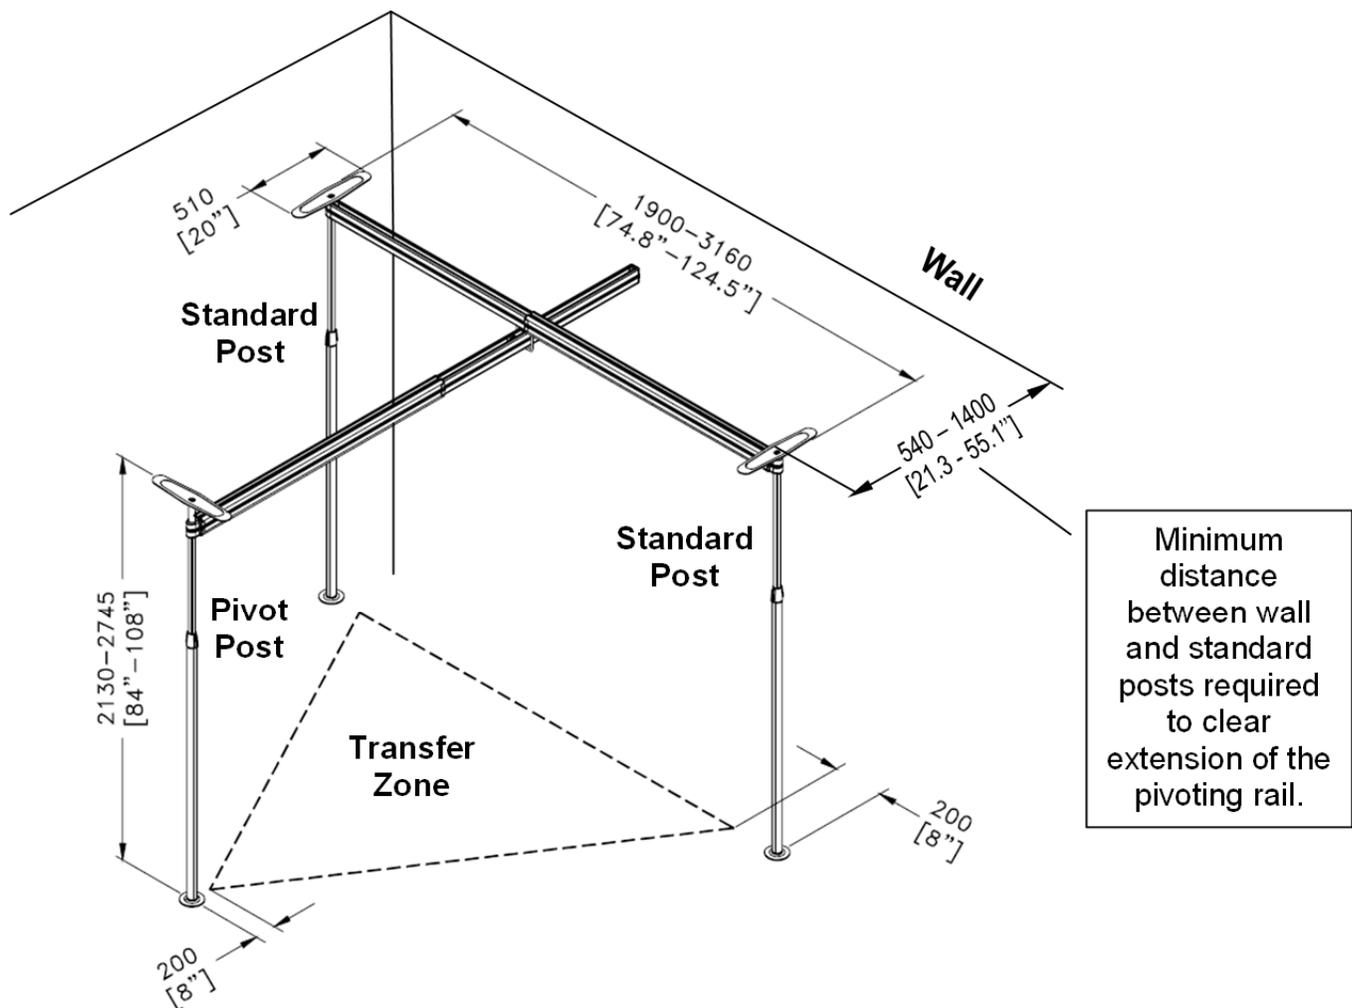

Figure 10
1. Decide where you will place your pivot and determine where the other two standard posts will be placed. There must be a minimum of 1.90 m / 75" distance between the two standard posts and a minimum of 540 mm to 1400 mm / 21.3" to 55.1" between the standard posts and the nearest wall (see Figure 10).